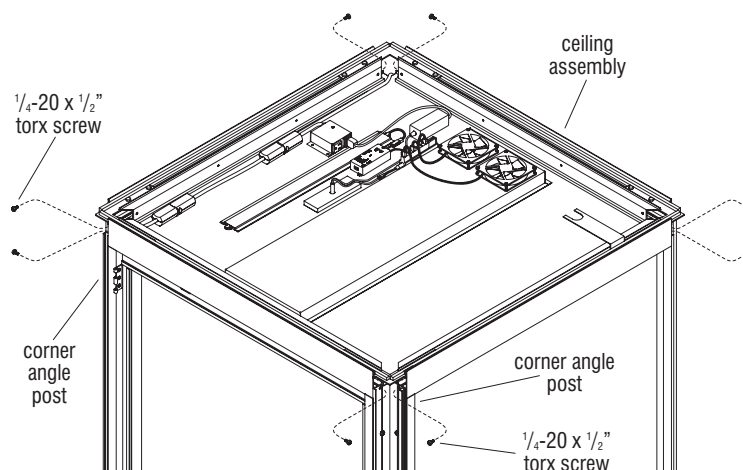

Figure 15
1. With the ceiling in place, locate the top mounting holes for the ceiling to the corner angle posts. Using a T-30 bit and cordless power drill, secure the ceiling to the four corner angle posts, using eight $\frac{1}{4}$ -20 x $\frac{1}{2}$ " screws (Figure 15 & Detail Z).